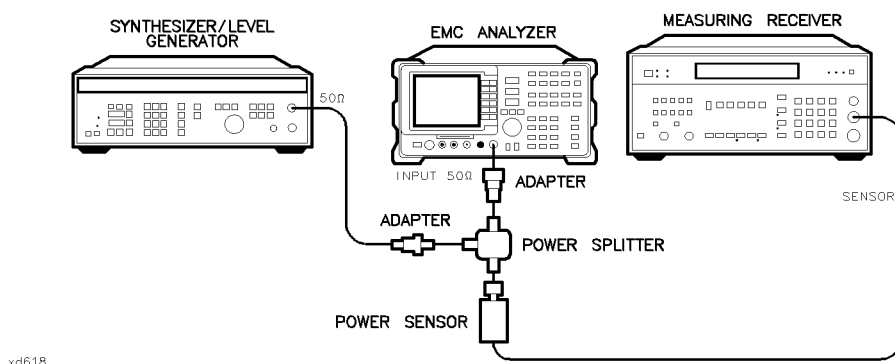

Figure 2-26. Frequency Response Test Setup, <50 MHz, HP 8593EM
49. Connect the equipment as shown in Figure 2-26, with the power sensor connected to power splitter.